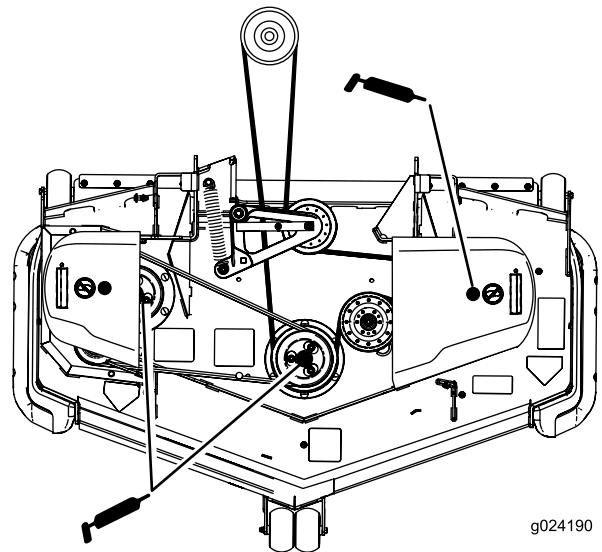

Figure 39
5. Grease the mower-deck idler-pulley pivot until grease come out the bottom (Figure 39).
6. Grease the 3 spindle bearings until grease comes out the lower seals (Figure 39).
- Grease the drive-belt idler arm (Figure 39).